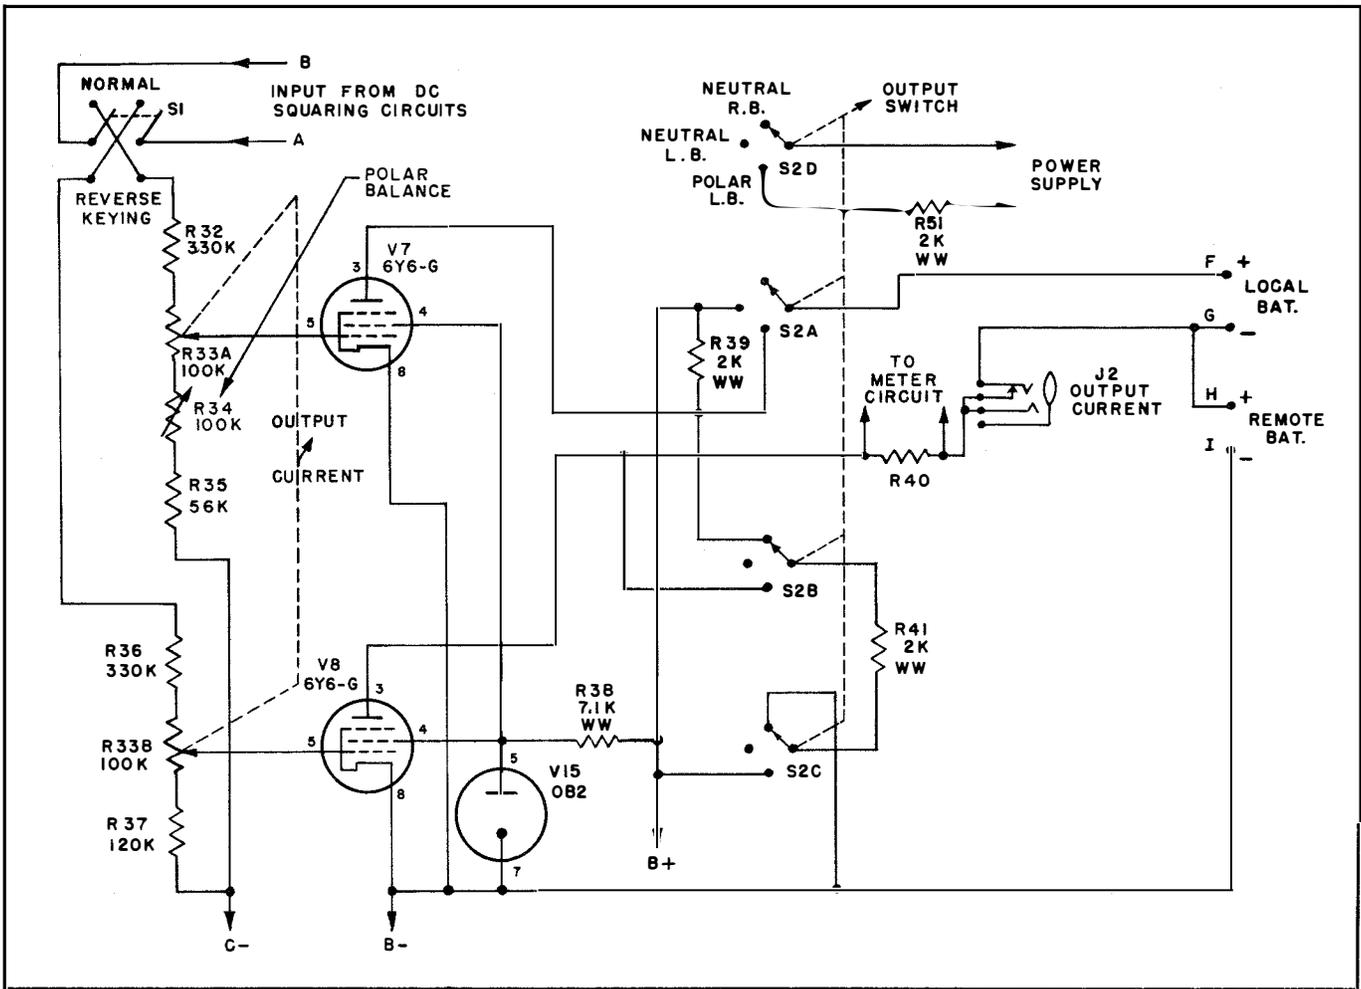

Figure 2-6. Output Circuits
(2) Tubes V4 and V5 are direct coupled cascade amplifiers in which positive feedback is secured between V4B and V4A by the common cathode resistor R18. Positive feedback is also secured between amplifier tube V5A and V4B by resistor R20. Initially the circuit is kept in a locked state by the selection of resistor values so that V4A and V5A draw current while V4B and V5B are cut off. If a negative voltage increasing in value is applied to the grid of V4A, the circuit will suddenly trigger at some V4A grid potential, to a second state of operation wherein V4A and V5A are cut off and V4B and V5B are drawing current. The switching transition is very sharp due to the positive feedback. When the negative voltage to the grid of V4A is reduced, a value will be reached at which the trigger circuit suddenly triggers back to its original state. Thus, the input to V4A may have rounded rise and decay times but the output will be a square wave. Output from the squaring circuits is taken from the plates of tube V5 and is in push-pull (output A is 180° out of phase with output B but of equal amplitude).
c. OUTPUT CIRCUITS - The output circuits of the Receiver are illustrated in Figure 2-6. They